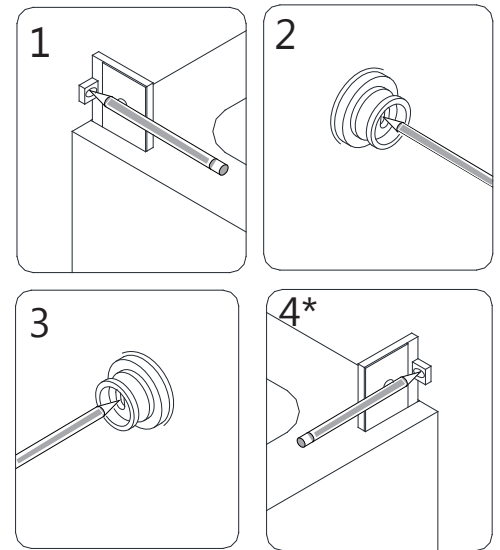

Fig 11
***NOTE:** If installing the 72" model, perform the same procedure on the opposite wall to mark the **Wall Bracket (#19)** for the **Small Stationary Panel Glass (#23)** (see Fig 11.4*). **(Fig 11)**